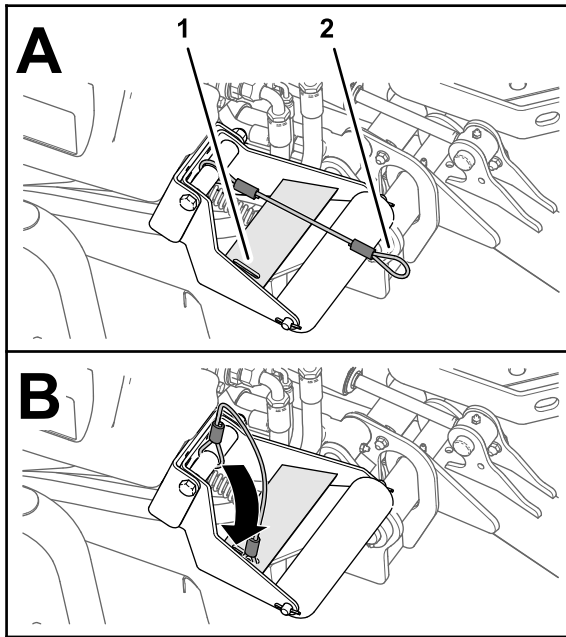

Figure 34
4. With the cutting units lowered, slip the loop of the lanyard into the slot in the reinforcement plate of the roller support (Figure 34).